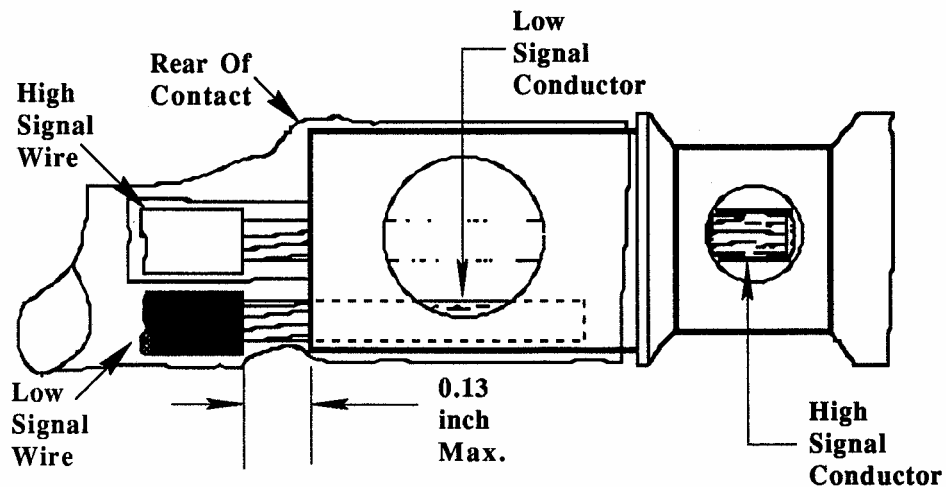

Figure 6-1. Inspection for Proper Assembly
- The distance from the contact body to the low signal wire insulation shall not exceed 0.13 inch (Figure 6-1).